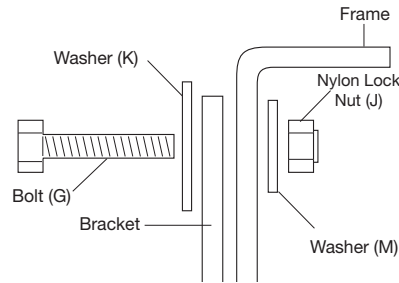

fig. 7
The passenger's (right) side will use bolt (G), large washer (K) on the outside of the frame, washer (M) on the inside of the frame, and nut (J) to attach the upper bracket to the existing hole on the side of the frame (Fig. 7).